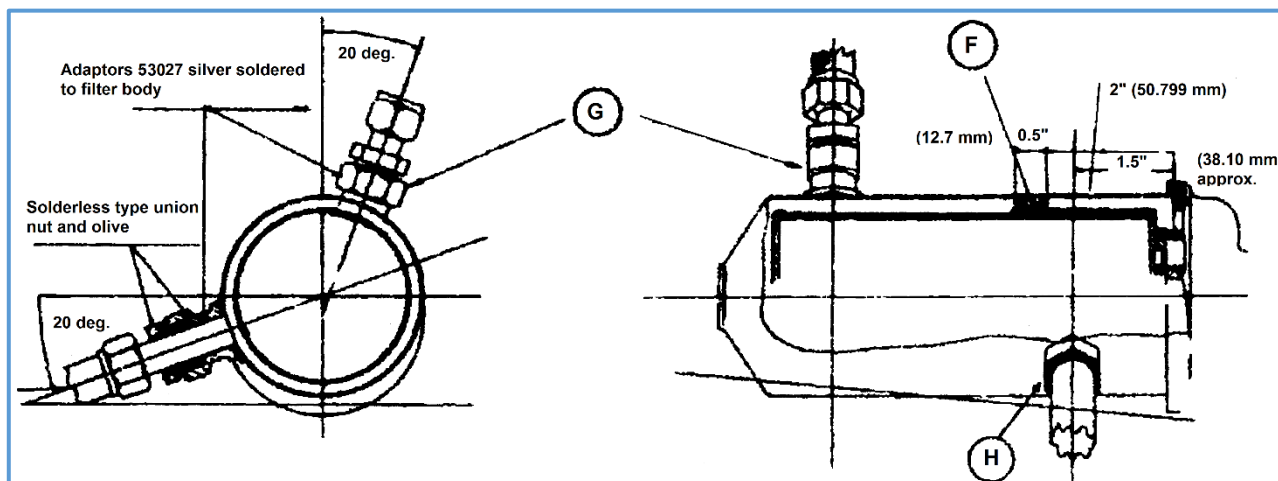

Figure 3a. Vokes oil filter modification.
1. Fit the blanking ring, Part Number 53046, to the oil filter case as shown at (F) *Figure 3a* and secure in position by riveting or sweating, do not weld or braze as this method would tend to cause distortion.
2. Drill two ½" (12.70 mm) holes in the filter case in the positions shown at (G) and (H) in *Figure 3a*, and fit the oil cooler pipe adaptors, Part Number 53027. Secure the adaptors to the case with silver solder.